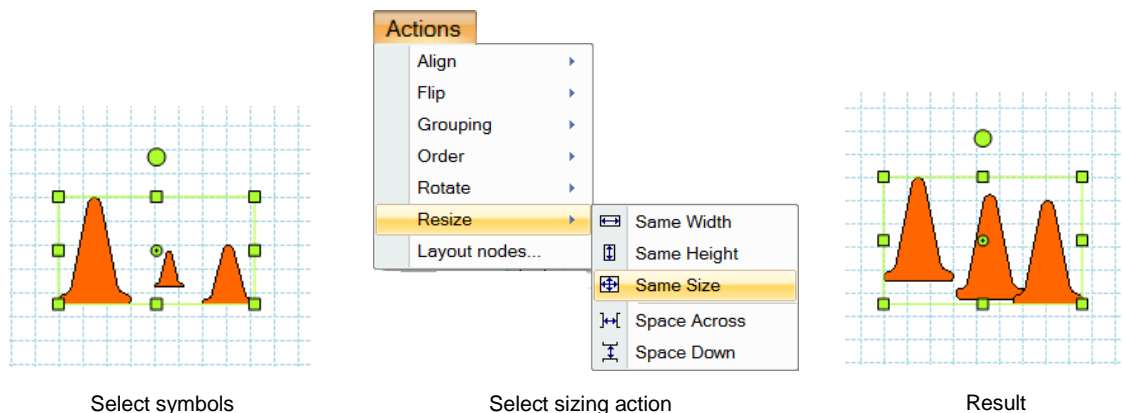

Figure 146. Resizing Symbols Example
Symbols can be resized to be the same height and width as other symbols, as well as be proportionally spaced on the drawing page. The change is based on the first selected symbol in the group. In the example in Figure 146, the cone on the left was the first selected symbol before the **Same Size** command was selected.
1. Resize symbols from the Actions menu, as shown in Figure 146.